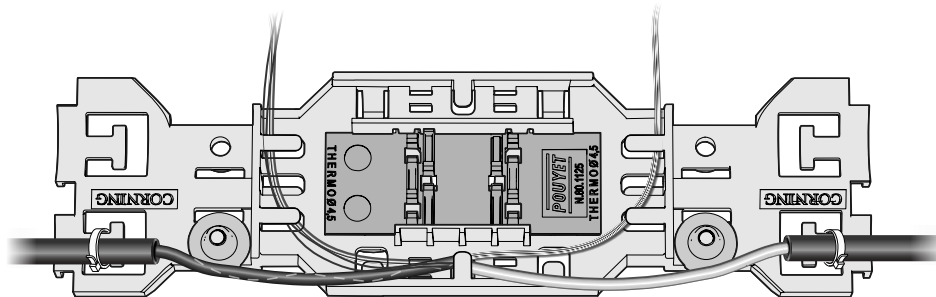

Figure 8 Both tether cables loaded in closure
Step 5: Load the prepared replacement tether into the closure. For example, in Figure 8 below, the damaged cable had single fibers and the replacement cable had ribbon fiber.